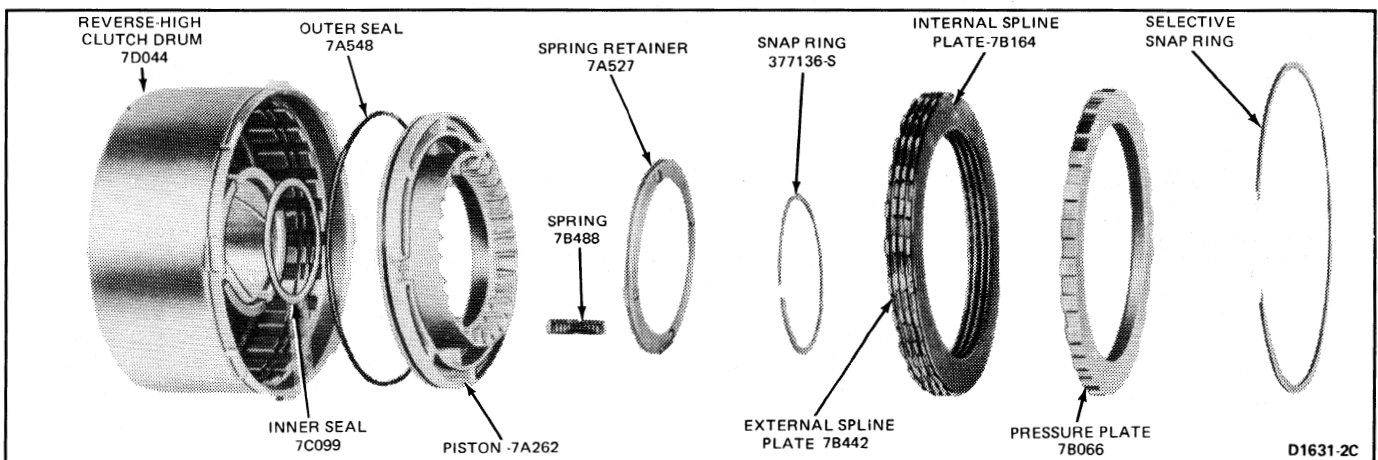

FIG. 41 Reverse-High Clutch Disassembled
2. Remove the pressure plate and the drive and driven (internal and external spline) clutch plates (Fig. 41).
6. Remove the piston outer seal from the piston and the inner seal from the clutch drum (Fig. 41).